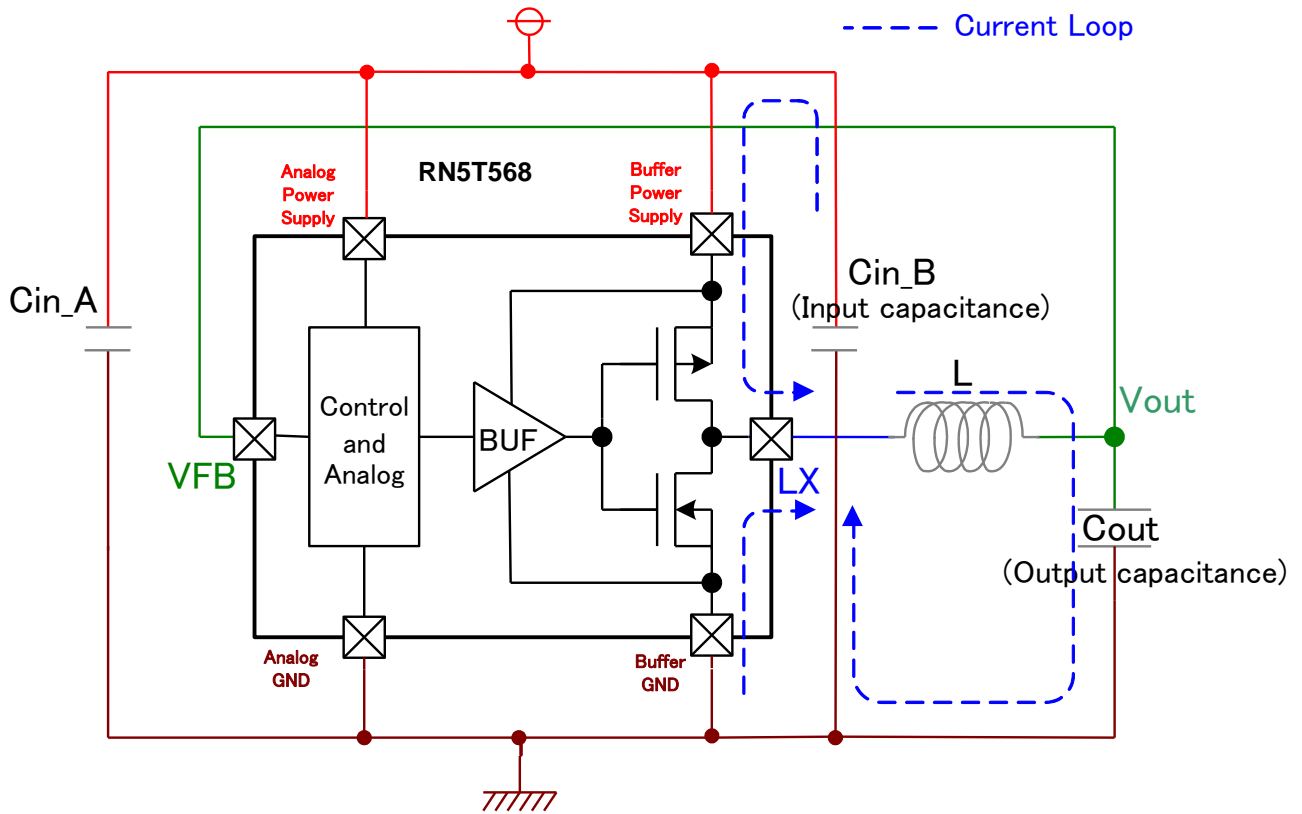
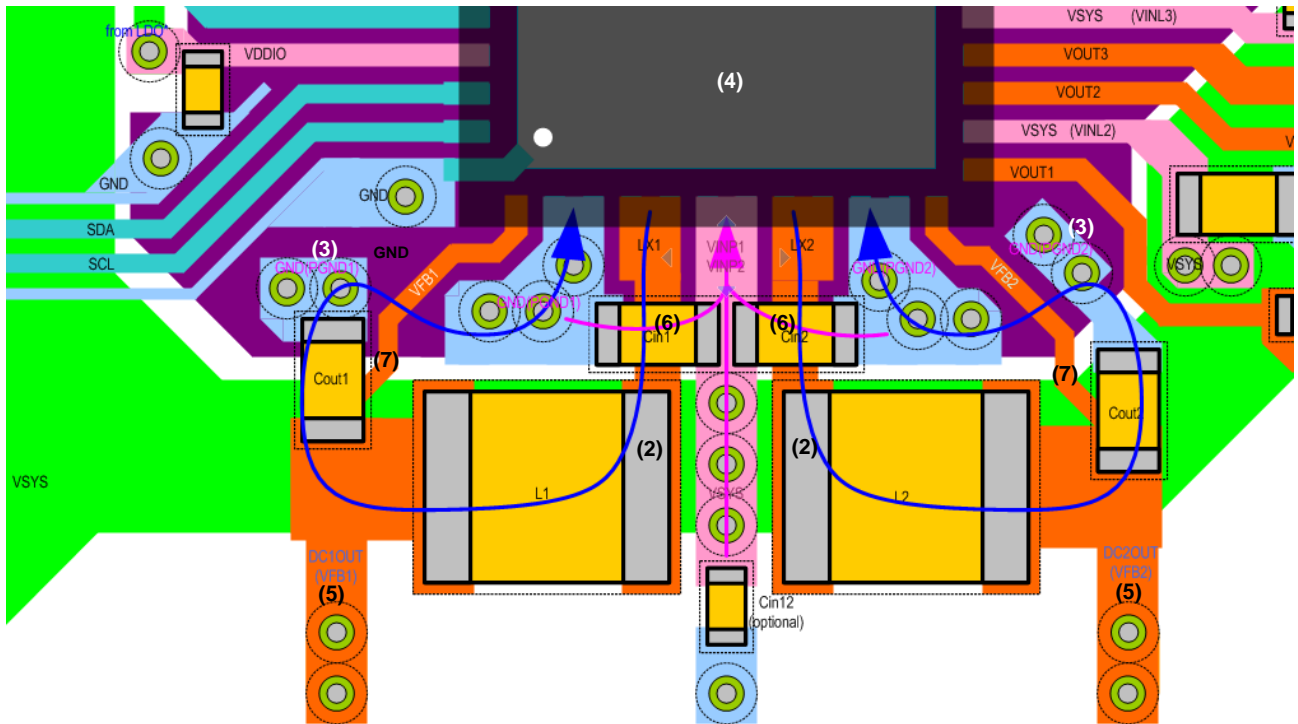

Fig. 1-1: Simplified Schematic for DCDC1, DCDC2, DCDC3 and DCDC4
Fig. 1-2: Example of DCDC Block Board Pattern (Top Layer)
- (1) Place the parts to minimize the switching current loop (Figure 1-1: Blue line, Figure 1-2: Blue line and purple line).
- (2) Route the LX line as short and wide as possible between RN5T568 and an inductor, and prohibit adding other redundant lines on it.
- (3) Connect the ground line of “Cout” directly to the other ground plane with multiple vias, in order to reduce impedance as small as possible. (Target: 50mΩ or less)
- (4) Connects TABPAD\* of RN5T568 to ground plane with low impedance.